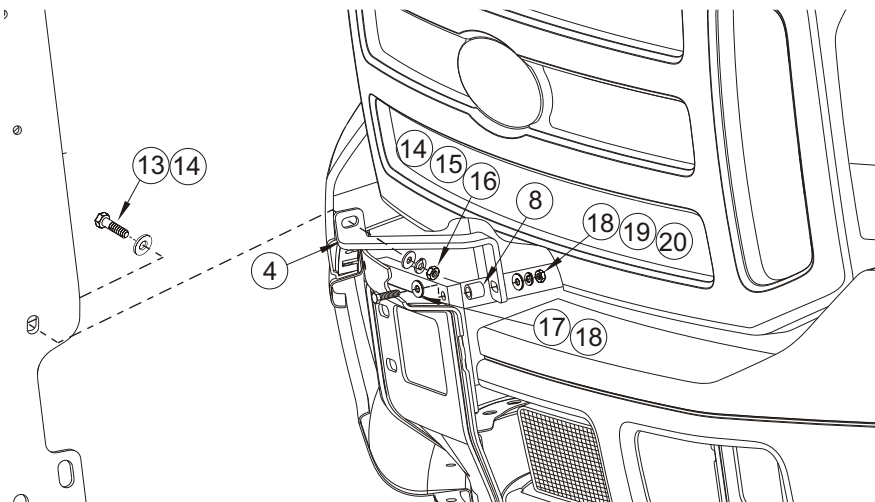

FIGURE 3
- STEP 7. Locate bumper mount plate welded to the end of the frame rail. Place the 5/16 X 1.75" bolt through the hole in the top corner towards the center of vehicle. This is best accessed from the center opening in the bumper. Place one 3/4" spacer on the bolt. Slide top brace between grille and bumper. Secure brace on bolt and spacer with 5/16" flat washer, lock washer and nut. Fasten top brace to grille guard upright with 3/8" hardware. Leave loose. **SEE FIGURE 3.**